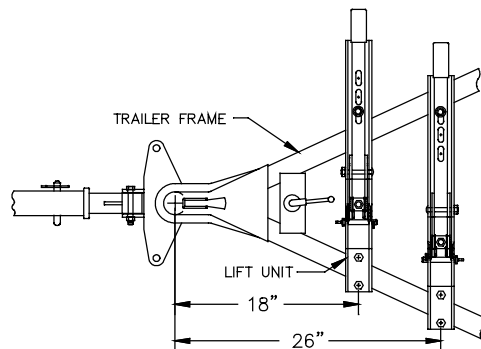

Figure 7
1. Place lift unit (4) on trailer "A" frame. The lift unit must be positioned 18" to 26" inches from center of trailer coupler and in orientation shown [See figures 7 & 8].